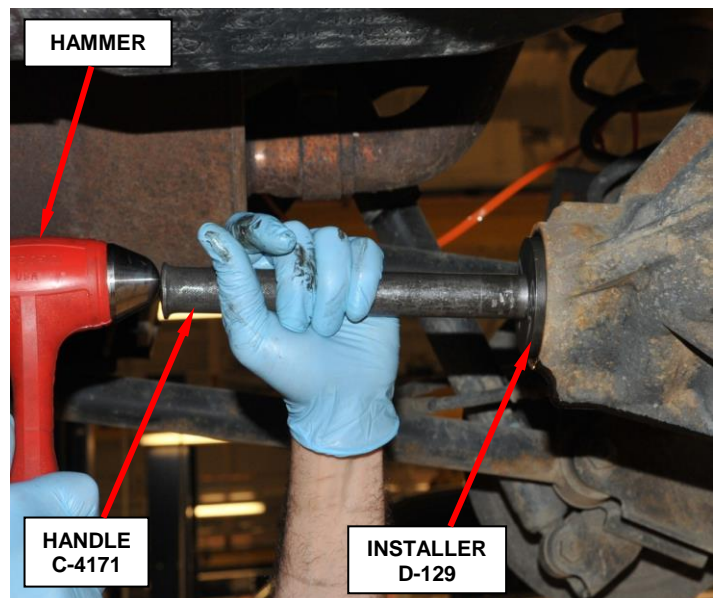

Figure 17 – Front Pinion Bearing Cup Installation
- Install the front pinion bearing cup with Installer D-129, Handle C-4171 and a hammer (Figure 17).